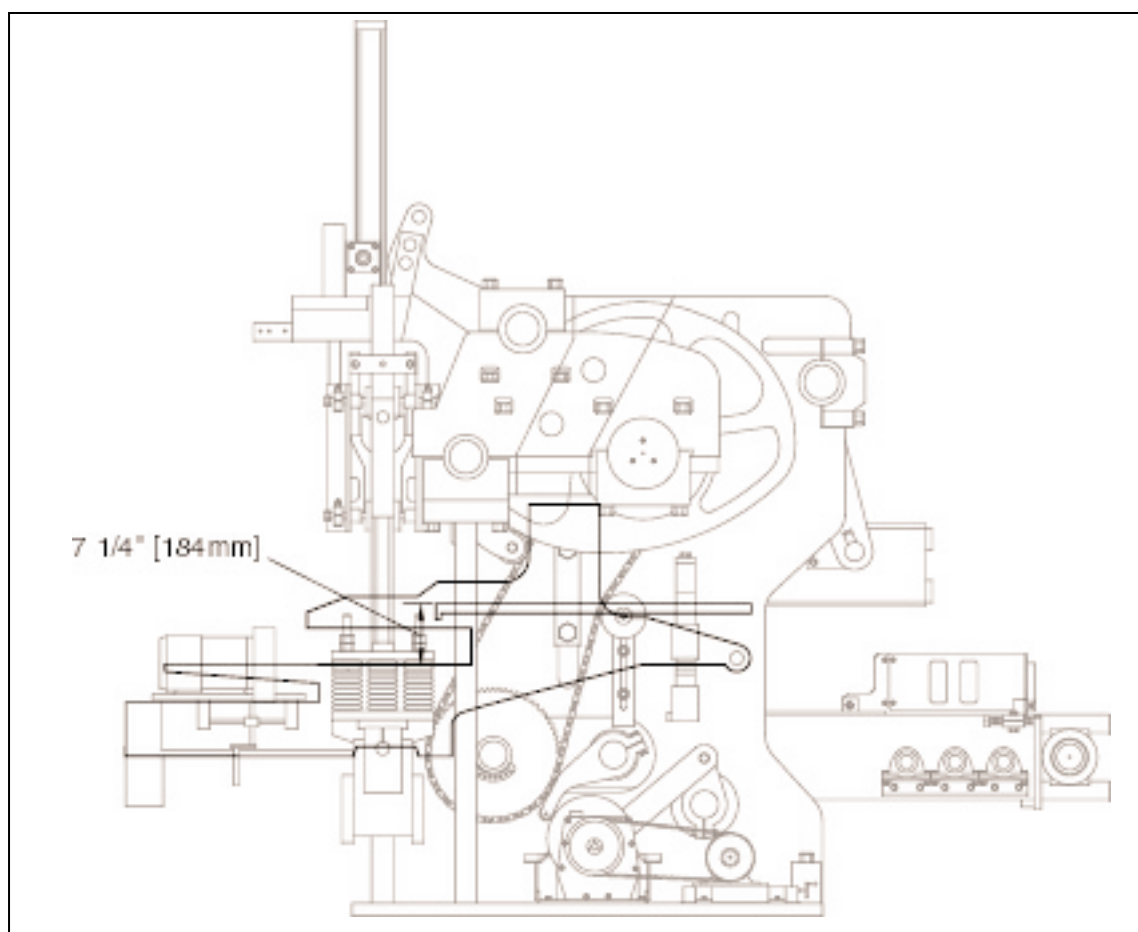

Figure 4.41 APRON PLATE ABOVE MOLD THROAT ADJUSTMENT.
4.3.3 Reconnect autofeed linkage and adjust so that the top of the apron plate is **184mm [7 1/4"]** above the mold throat at the lowest position of the autofeed (see figure 4.41). To adjust, lower or raise the autofeed until apron plate is in correct position.